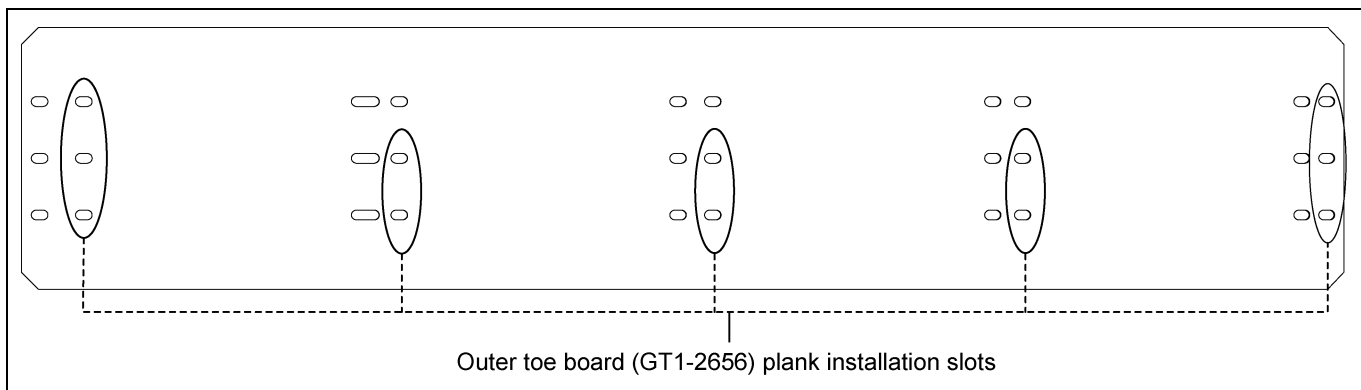

Figure 4S
3. Outer toe board (GT1-2656) is aligned and attached to the planks with the corresponding slots as shown in Figure 4S.